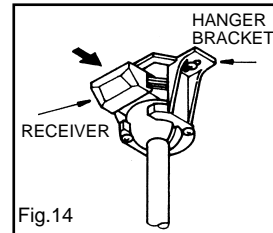

Fig.14
**Step 1.**(Fig. 14)Insert the receiver unit into the hanger bracket with the flat side of the receiver facing the ceiling.